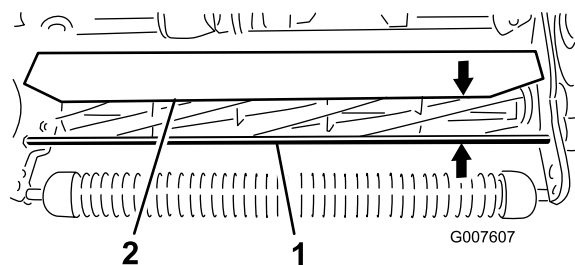

Figure 45
- Measure the distance from top of the front support rod to the front lip of the shield at each end of the cutting unit (Figure 45).